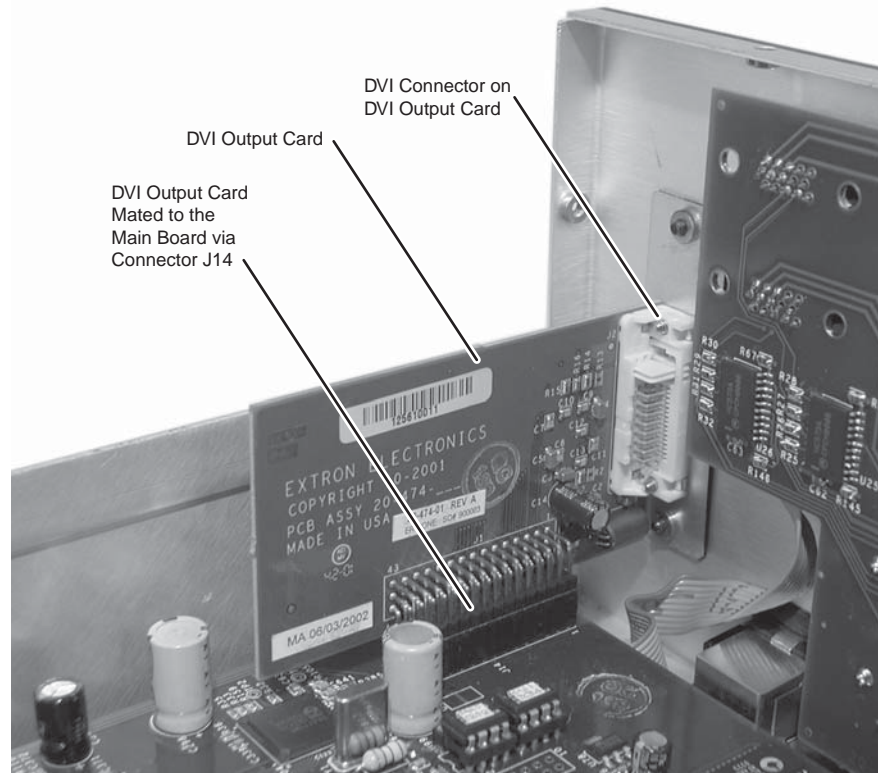

Figure 7-4 — Output DVI board installation
5. Carefully mate the 45-pin connector on the DVI output board with connector J14 on the main circuit board (figure 7-4).